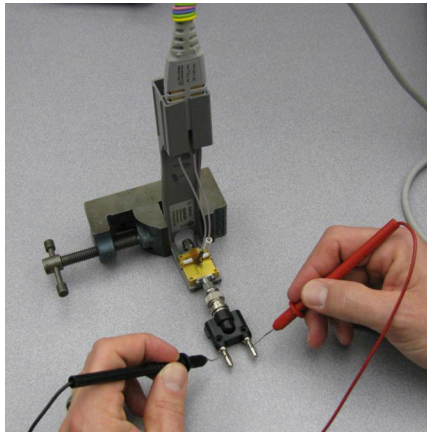

Figure 109 Measuring the Differential Input Resistance of Solder-In Probe Head
Figure 109 shows the correct setup for measuring the differential input resistance for the solder-in probe head.
- 1 Connect the BNC to SMA adapter and BNC to Banana Plug adapters as shown in **Figure 109** on page 150.
- 4 Connect the ZIF or solder-in probe head to the probe amp and insert it into the PV fixture as shown **Figure 109**.
- 6 As shown in **Figure 109**, measure the DC input resistance between the banana plugs. Since one tip wire is connected to the signal line and the other tip is connected to the PV fixture ground, this is a measurement of the differential input resistance. It should be $100\text{ k}\Omega \pm 2\%$ (98 to $102\text{ k}\Omega$).